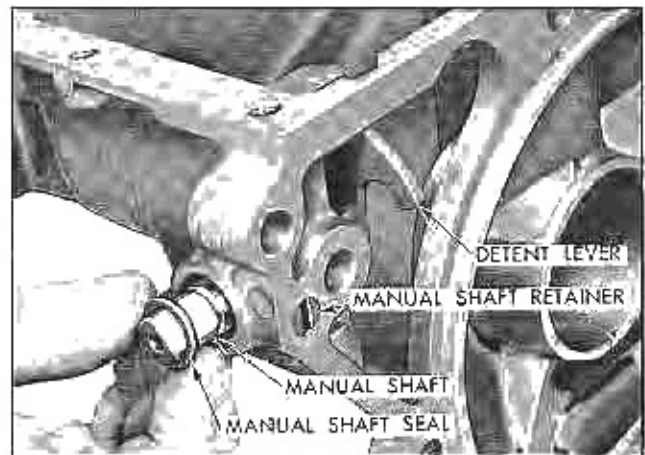

Fig. 95 Removing Manual Shaft Seal
1. Remove inside detent lever and shaft assembly by removing manual shaft retaining pin from case side of retainer (Fig. 95). CAUTION: This is not a screw.